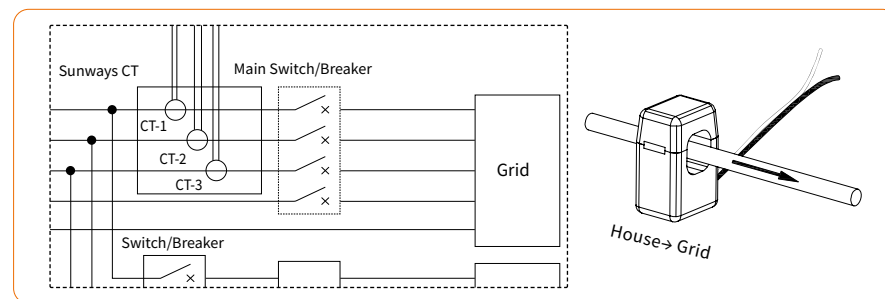

Figure 4-22 CT connection diagram
① The current transformer, also called CT, is usually installed on the fire wires between the house loads and the power grid, as shown in Figure 4-22.